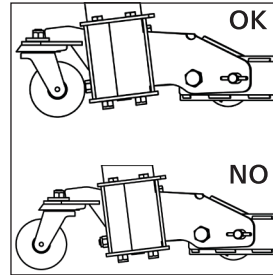

Figure 6
- 1 To assemble the legs (5) of foldable cranes, it is necessary to position the crane on the ground with the wheels in position indicated in figure 6, page 4. Start by extracting the peg (6), turning it until its fixed limit (C in figure 7) coincides with the window. With the legs on the ground, introduce the peg (6) in the holes (B in figure 7). Turn the peg slightly in order to prevent it from falling out, hence securing the legs to the base of the crane. Perform the reverse operation to fold the legs.